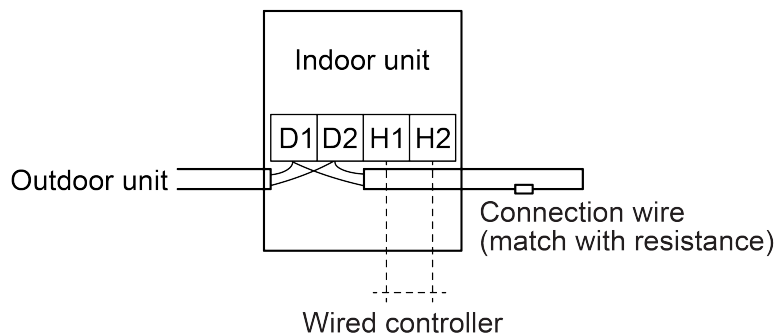

Fig.5.3.2
- (4) For more reliable communication, make sure connect the downstream IDU of the communication bus (terminal D1 and D2), as shown in Fig.5.3.2, terminal resistor to the most terminal resistor is provided with each ODU.